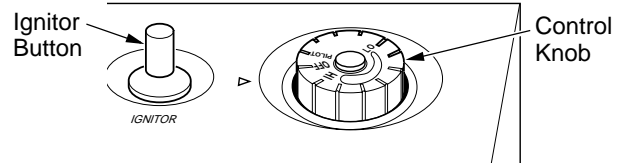

Figure 22 - Control Knob In The OFF Position, Models VP16T, VN18T, VP26T, & VN30T
3. Turn thermostat control knob clockwise  to the OFF position (see Figure 22 or 23 for your model).
5. Turn thermostat control knob counterclockwise  to the PILOT position. Press in thermostat control knob for 5 seconds (see Figure 22 or 23 for your model).